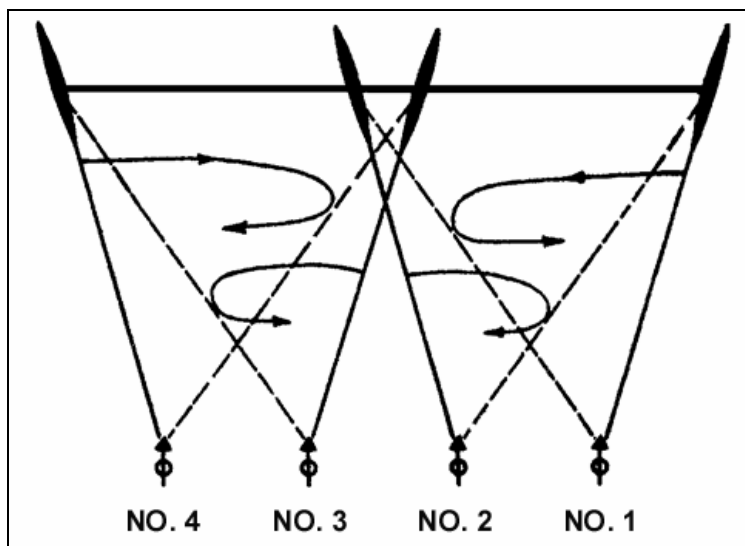

Figure 5-14. Two pairs of MK 19s engaging each half of a target 100 to 200 mils in width.
- Each pair of MK 19s engages half the target (Figure 5-14).